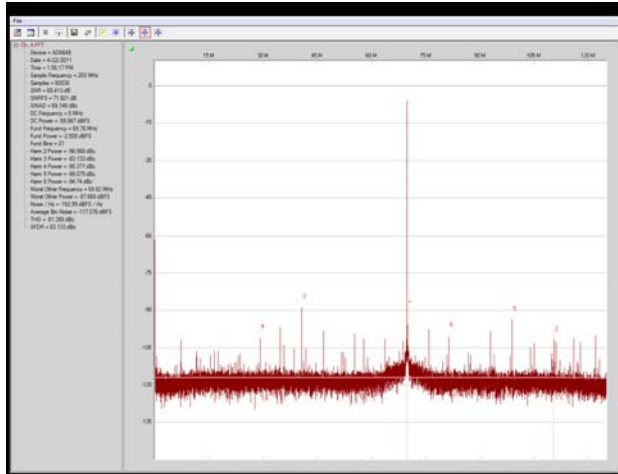
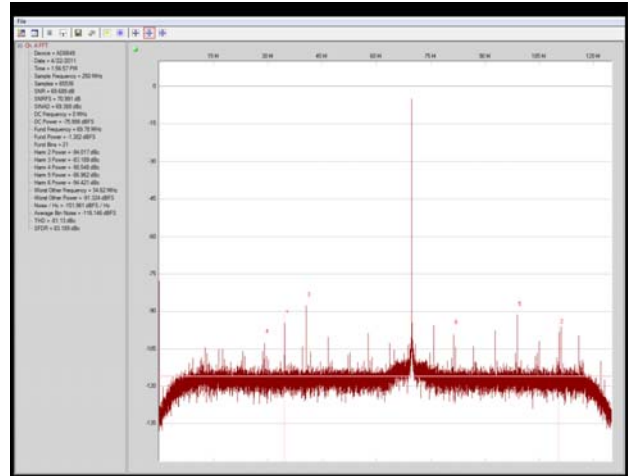

Figure 18. Visual Graph Window of VisualAnalog (AD6649)—95 MHz FIR Filter and Fixed-Frequency NCO Mode
Figure 19. Visual Graph Window of VisualAnalog (AD6649)—100 MHz FIR Filter and Tunable-Frequency NCO Mode
- If operating the AD6649 in the mode using the 95 MHz FIR filter and fixed-frequency NCO, the amplitude displayed is  $-2.5$  dBFS for a  $-1.0$  dBFS input signal (see Figure 18) to the desired settings. If operating the AD6649 in the mode utilizing the 100 MHz FIR filter and tunable-frequency NCO, the amplitude displayed is  $-1.3$  dBFS for a  $-1.0$  dBFS input signal (see Figure 19).